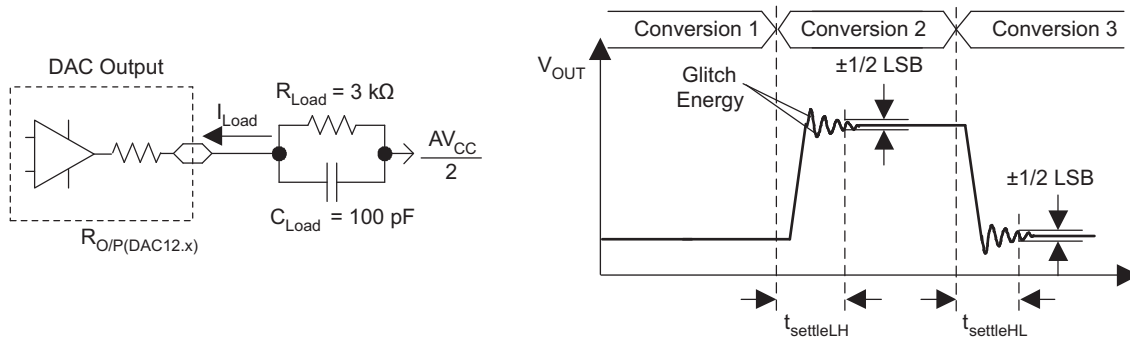

Figure 5-45. Settling Time and Glitch Energy Testing
- (1) R_{Load} and C_{Load} are connected to AV_{SS} (not AV_{CC}/2) in Figure 5-45.
- (2) Slew rate applies to output voltage steps ≥ 200 mV.